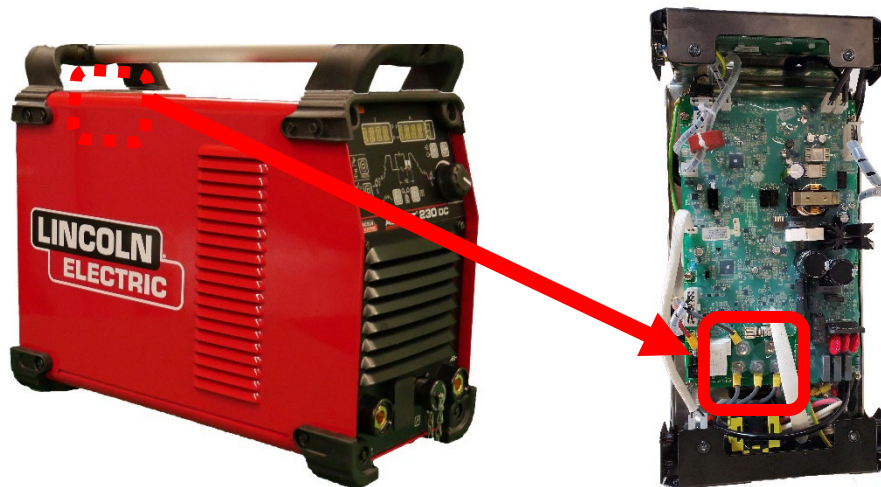

Figure F.1
1. For location of the Input Rectifier refer to Figure F.1.